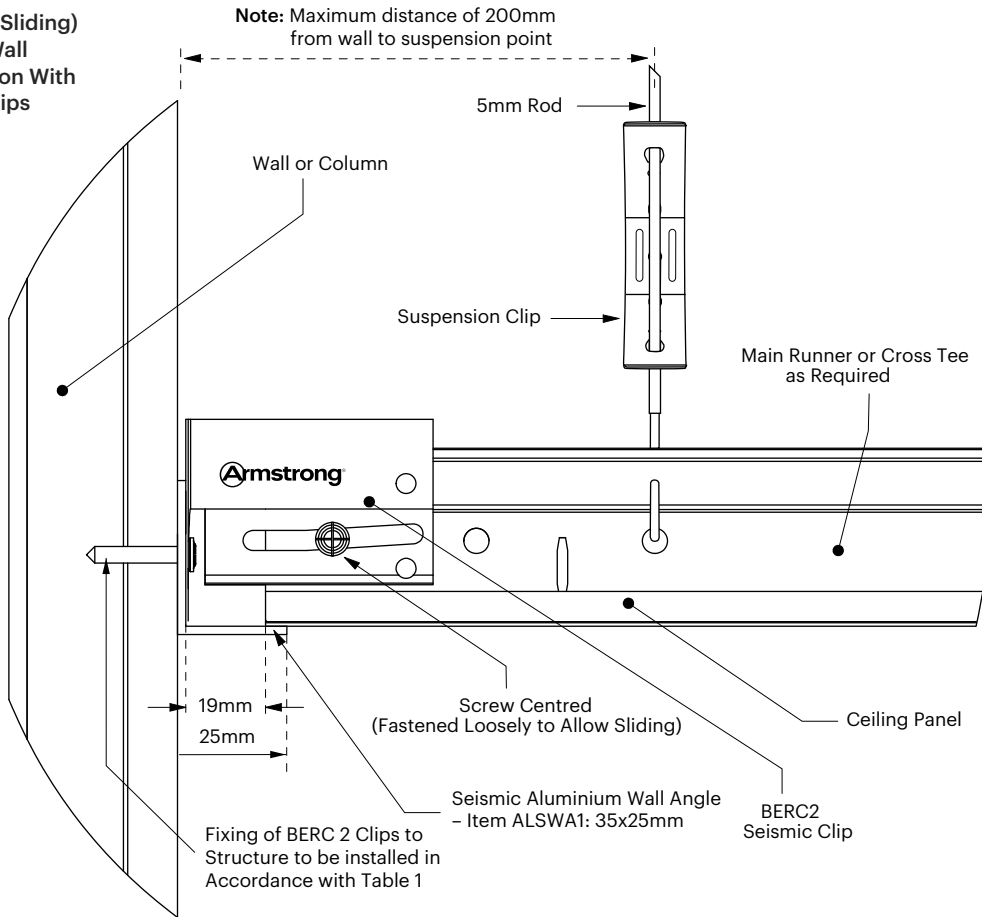

Fig 7
3. Seismic Clearance & Overlap for Sliding Connections: A 19mm clearance between the end of the Grid and the vertical leg of the Perimeter Trim, combined with a 6mm overlap of Grid on the Perimeter Trim is required on two adjacent sides of the ceiling. See Fig 6 below and Fig 7 on Page 13 for details of the sliding joint created by the BERC2 Clip.